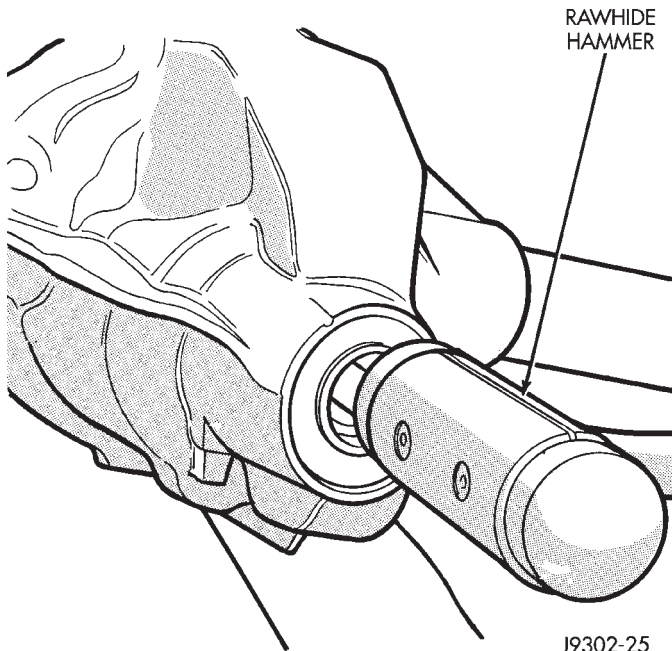

Fig. 25 Remove Pinion Gear
(6) Partially install pinion nut onto pinion to protect the threads.
(7) Remove the pinion gear from housing (Fig. 25). Catch the pinion with your hand to prevent it from falling and being damaged.